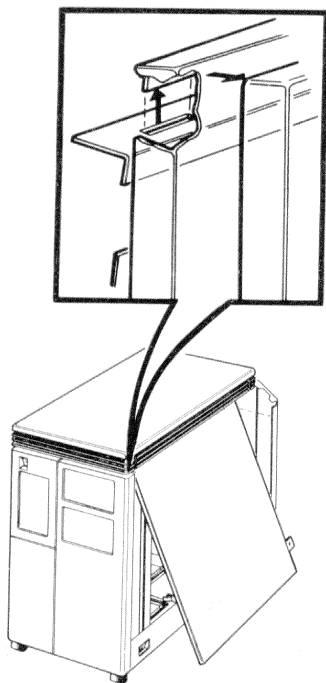

Figure 6-2 Unhooking the Right Side Panel
3. Loosen the captive screw that connects the right side panel to the rear of the enclosure frame. (Figure 6-2)